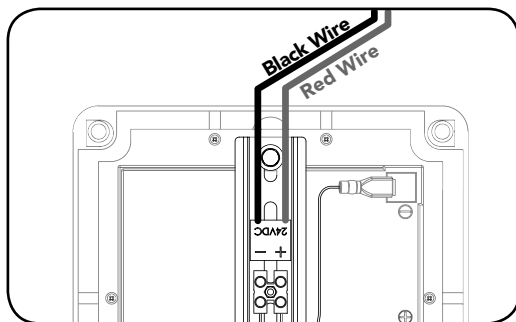

Fig. 43
- Connect the red wire to the Battery Box's "+" terminal, and the black wire to the "-" terminal (Fig. 43).